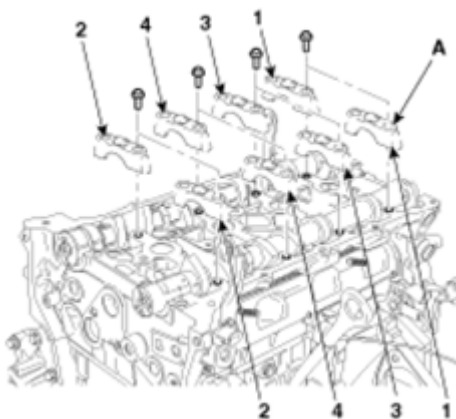

Fig. 19: Identifying Camshaft Bearing Cap Removal Sequence
3. Remove the camshaft bearing cap (A), in the sequence shown in **Fig. 19**.